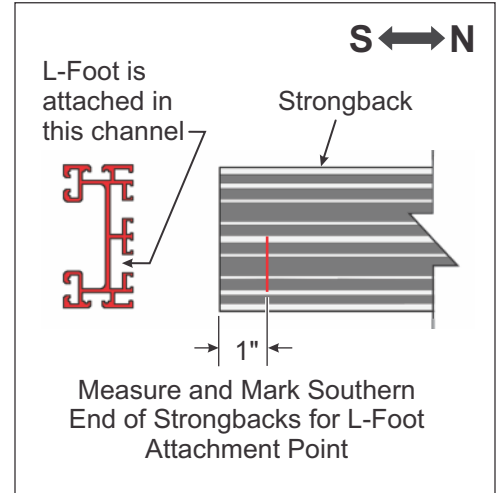

Figure 1-1: Measure and Mark Strongback
L-Feet are attached at the southern ends of the Strongbacks. Being mindful of the Strongback orientation and mounting channels (see Figure 1-1), measure and make a mark at 1" from the end of the Strongback. This is where the center of the L-Foot will be aligned and secured to the Strongback.
- A. Refer to Figure 1-1 for Strongback profile orientation and mounting channel.